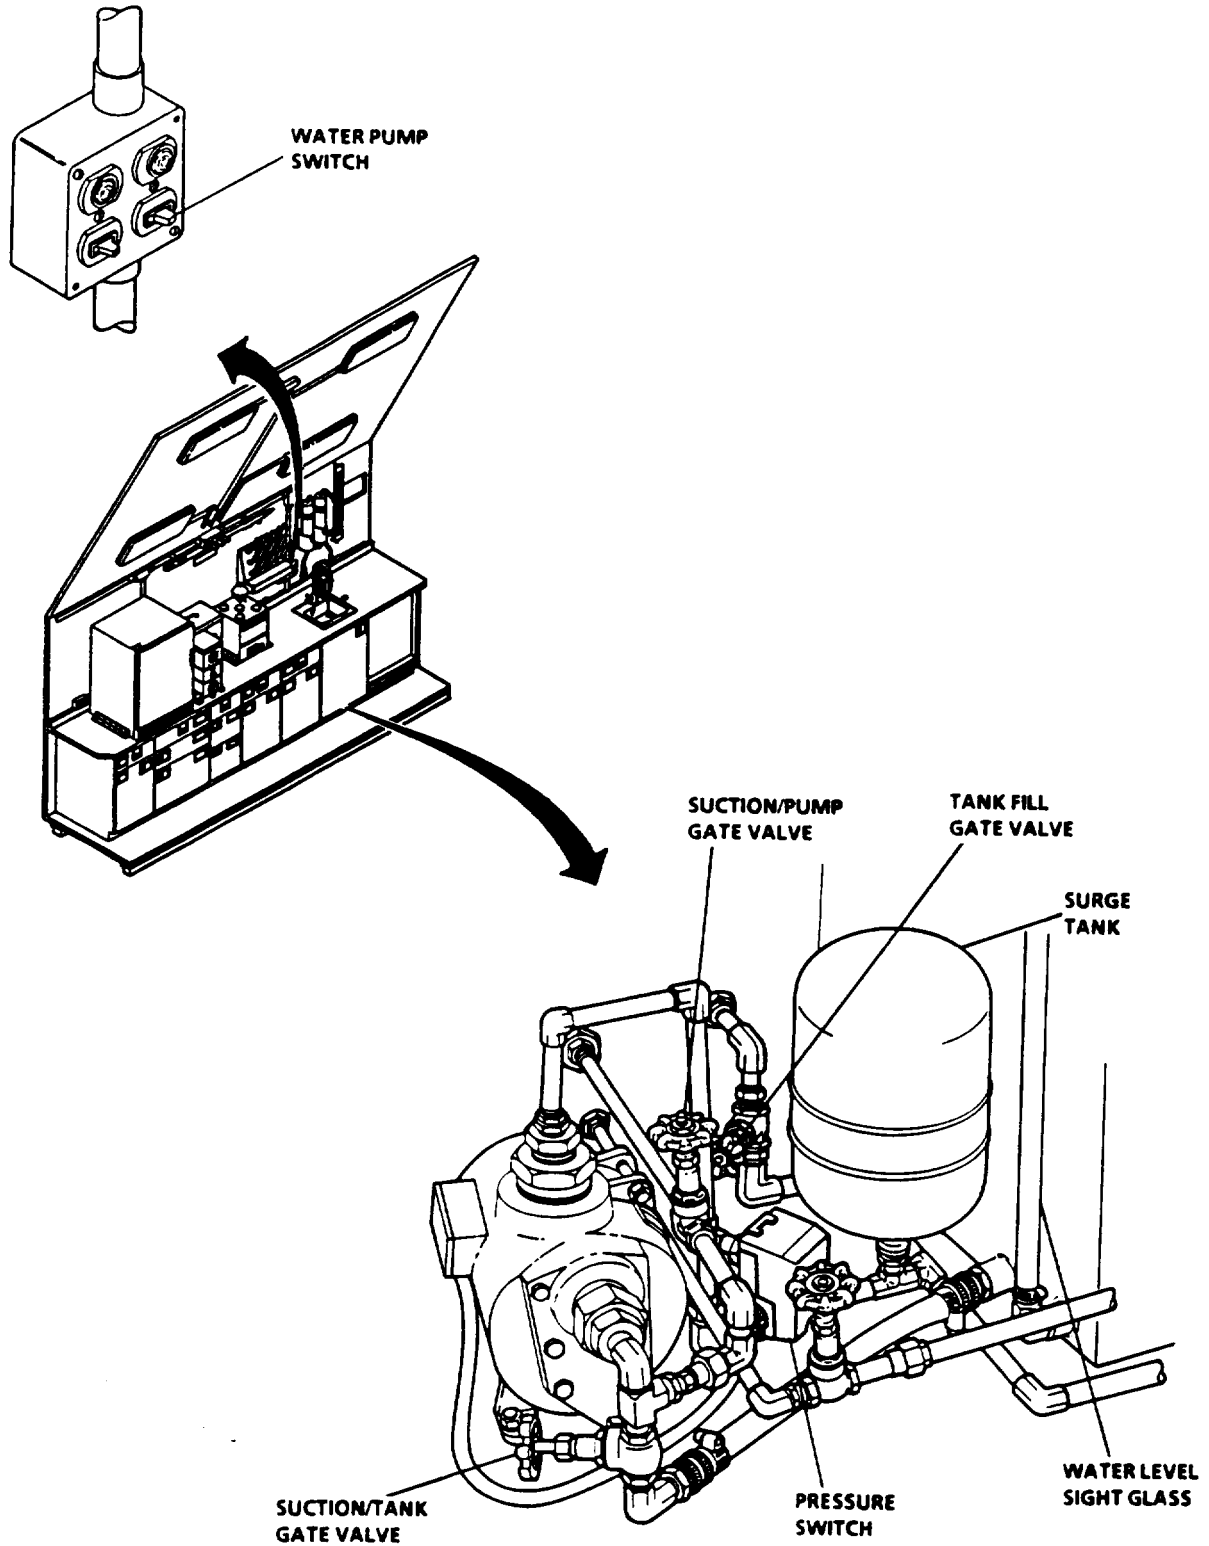

Figure 2-6. Water System Controls and Indicators
- e. Interior - Water System Controls and Indicators (Cabinet No. 4). Figure 2-6 and Table 2-6 list the controls and indicators for the water system located in cabinet No. 4.